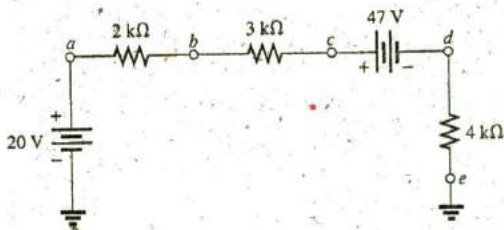

FIG. 5.120
37. For the network in Fig. 5.120 determine the voltages: